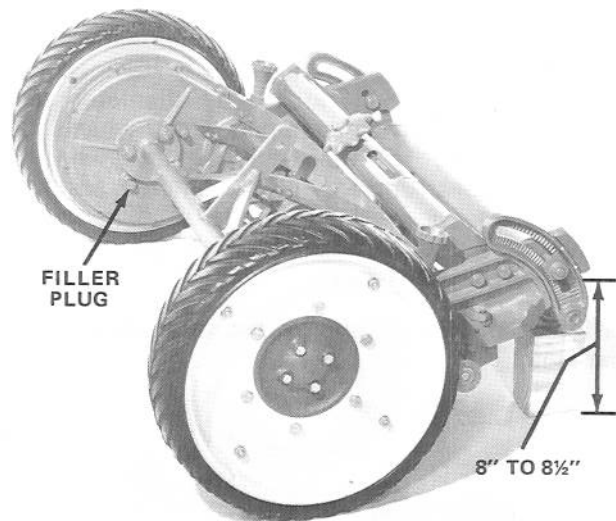

Figure 3
2. Raise and block back of mower until there is 8 to 8-1/2 inches between bottom of gear case extending behind roller bracket and level surface (Fig. 3).
3. Remove filler plug from inside of each gear case (Fig. 3). Check oil level in gear case: it should be level with bottom of filler hole. If oil is level with bottom of hole, reinstall filler plug.